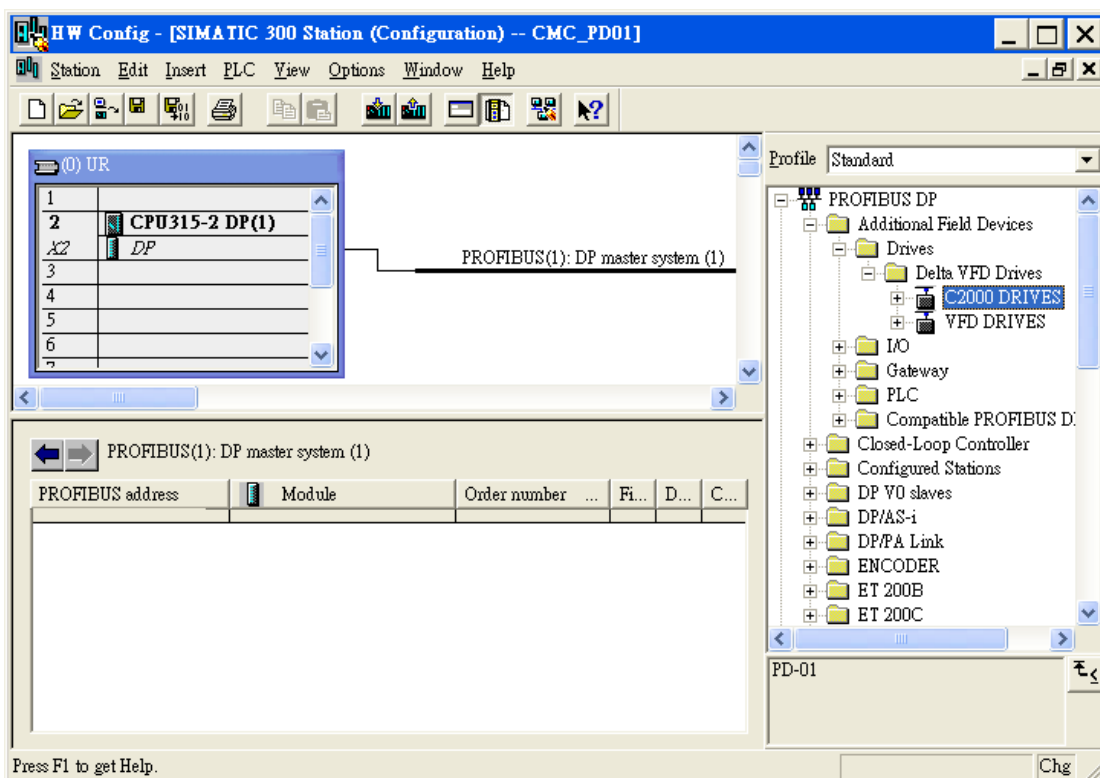

Figure 7-19
3. We can see VFD-C2000 in the right-hand side column. See Figure 7-19. C2000 DRIVES is the module added.